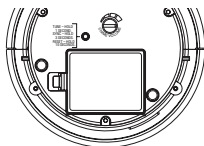

Figure 3
- Push the battery cover tab toward the battery cover and pull to remove (see Figure 3).